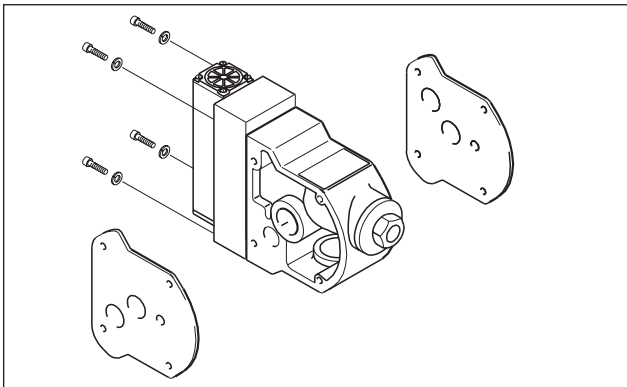

Fig. 18: Assembly of external control valve
- Loosen four fastening screws on the control block. Now you can pull out the complete control valve with pilot control. This is also possible without disassembling the pump (Fig. 18).